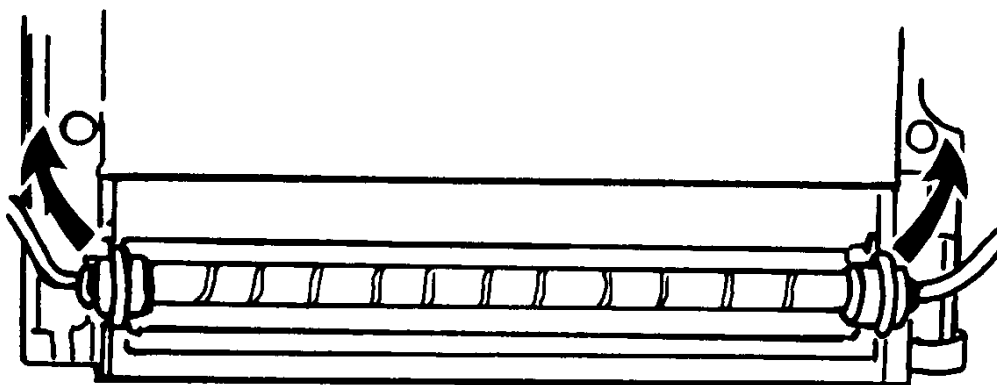

Figure 4-30 Lifting Out Flashtubes
- 1.3 Flashtubes are held in place by grommets at ends. Lift out Flashtubes by gently pulling up on wires at each end. (Fig. 4-30)
1.3 Loosen screws in Solenoid bracket. Position the Solenoid body so that when plunger is all the way in (energized position), linkage pivot "X" is at the right end of the slot, as shown in the illustration (Fig. 4-30).